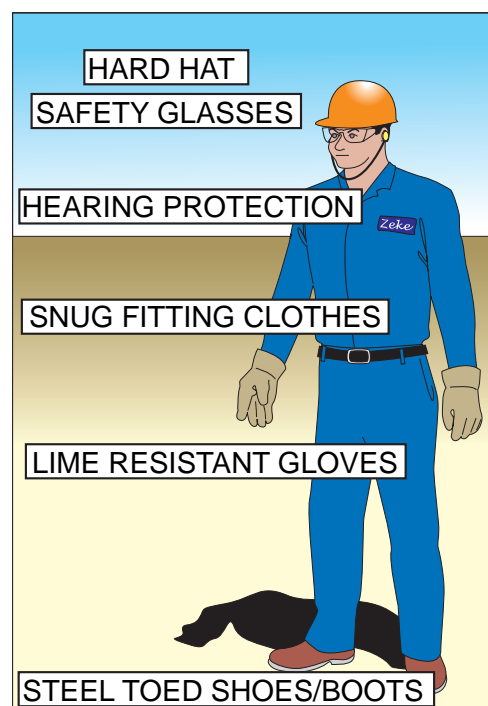

Figure 2
- 1.2 **⚠️WARNING!** You should wear the same personal safety equipment as the operator. Goggles, hard hat, ear protection, and rubber gloves are especially important when working near the hopper (Figure 2).